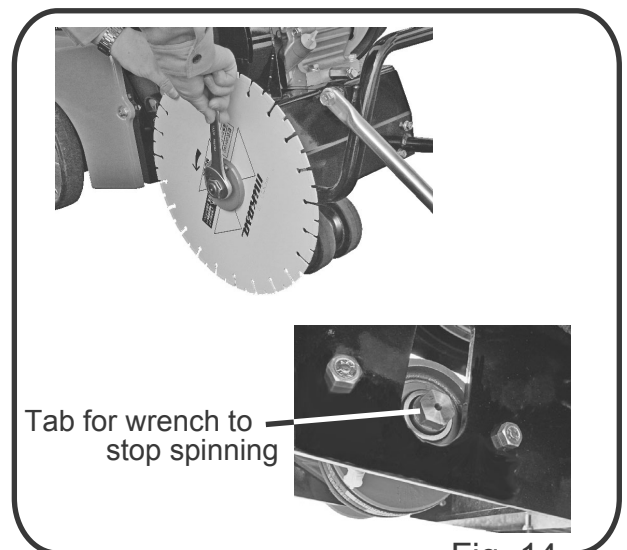

Fig. 14
- C. For tightening, use a 30mm wrench. With a 17 mm wrench, hold the blade shaft to prevent it from spinning. (Fig. 14)